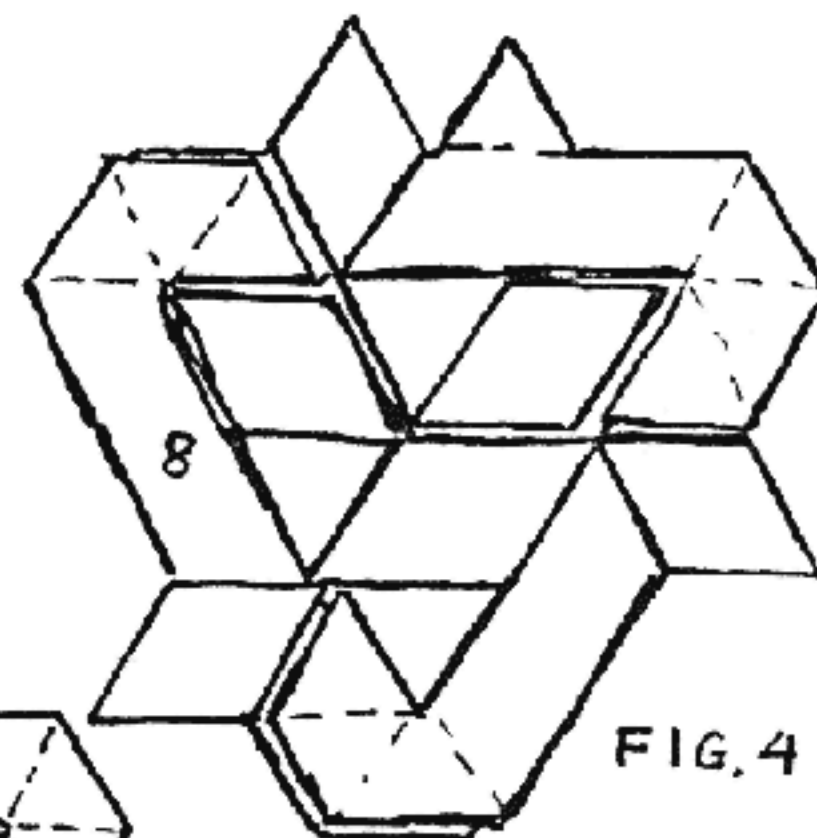

FIG. 4
shown in Fig. 4. These first four steps
4. Install piece M from the left as shown in Fig. 4. These first four steps will require some dexterity and patience to hold all the pieces in place, but from here on it gets easier.